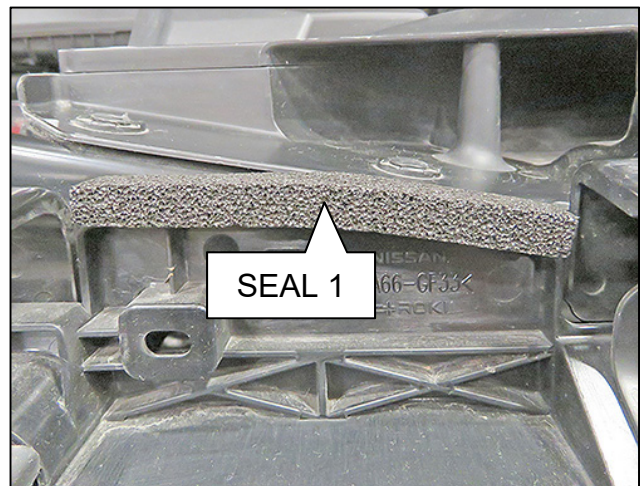

Figure 6
- it is centered on the radiator mounting bracket as shown in Figure 6.